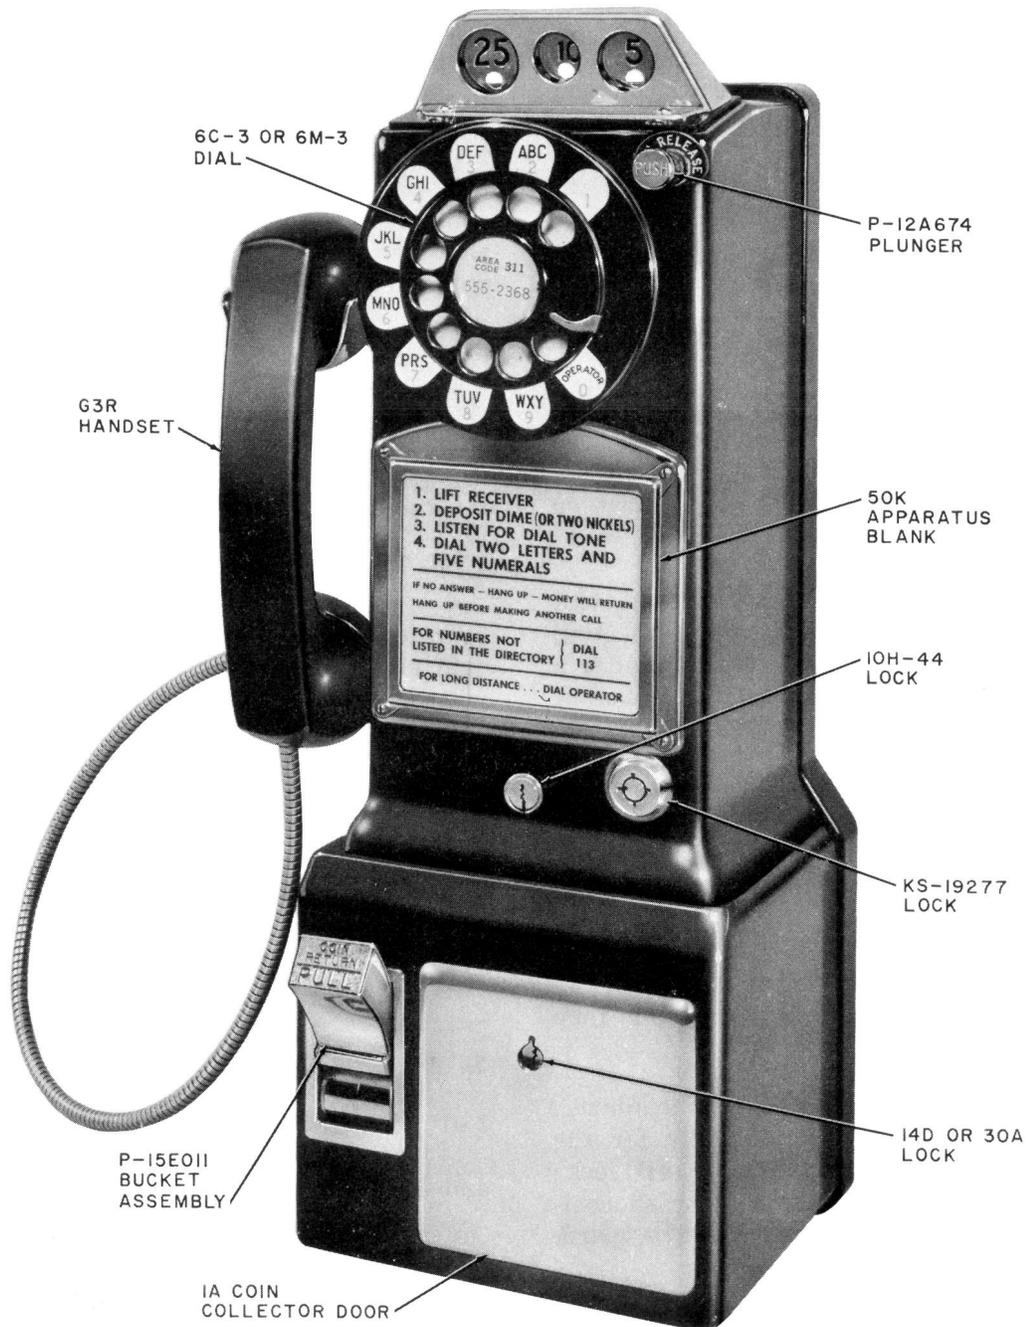

Fig. 1 — 236G Coin Telephone
1.01 The 236G coin telephone (Fig. 1) is a modified 234G coin collector, having the transmission network and ringer included in the upper housing which eliminates the need for a subscriber set.
3.01 The 236G coin telephone consists of the following major components (Fig. 1, 2, 3, and 4).